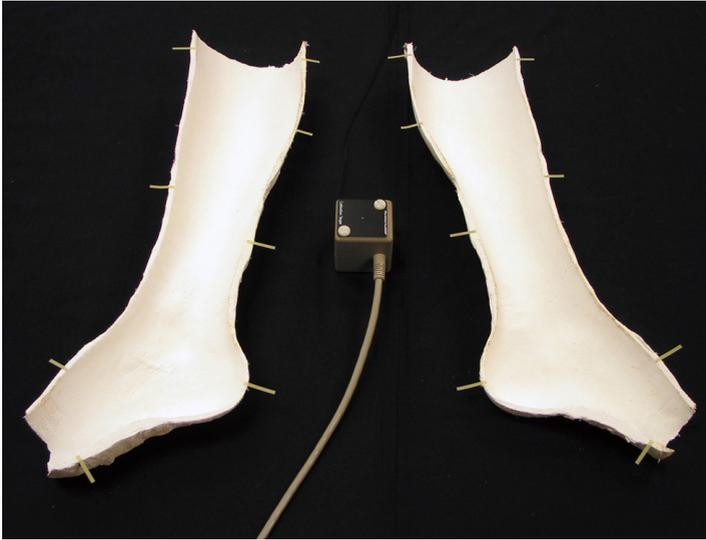

Figure 6: The Transmitter between the two halves of the cast.
1. Place the two halves of the cast side by side on a matte black cloth with the Transmitter placed between them, as shown in Figure 6.